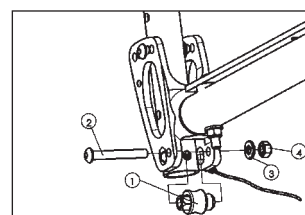

Figure 3
4. Set the folding mechanism: To do this, loosen the nuts on the cam slightly (Figure 3). Set the cam (component 1) such that the folding mechanism locks into place with no play (if necessary use a 10 mm open-ended spanner to do this). Then hold the cam in position and tighten the nuts (5 Nm).